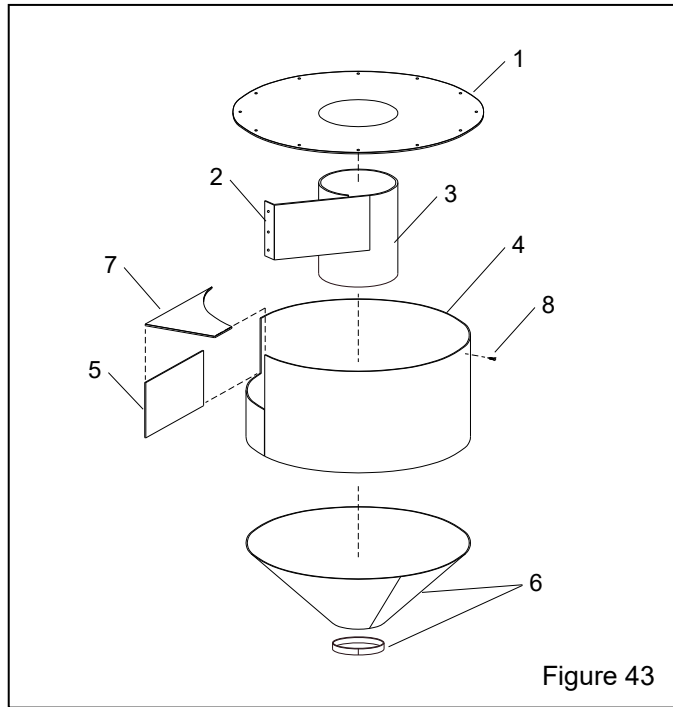

Figure 43
**9.1.3 Rubber Reclaimer Liners – Figure 43**